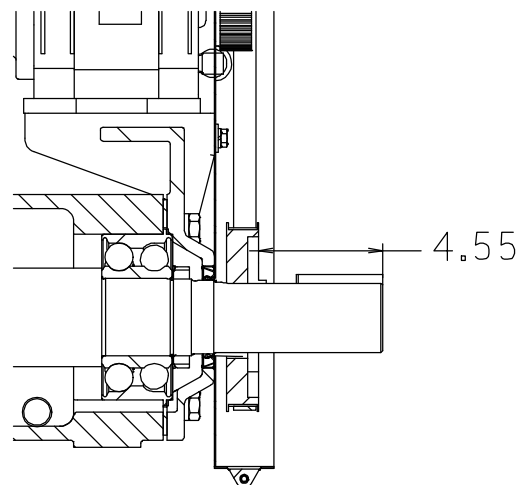

Figure 6. Drive Sprocket Positioning
keyway for the drive key (26, Figure 2). Install the bushing (4) and sprocket (3) on the shaft to the dimension shown in Figure 6.